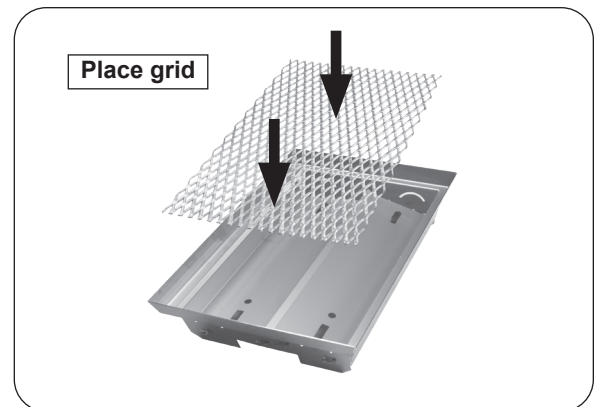

Fig. 41-2 Place grid inside basket
1. Place grid inside the basket frame (see Fig. 41-2).